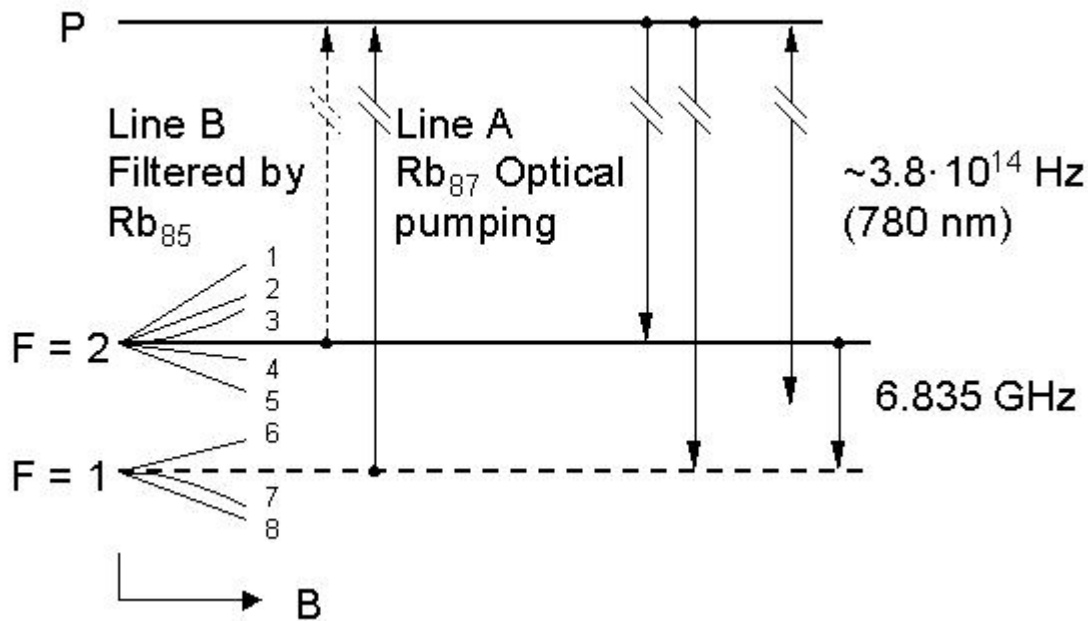

Fig. 2-1: Energy levels and transitions in Rb^{87} atoms during SRO operation.
In order to detect the clock transition between these two levels, the atoms need to be manipulated in such a way that most of them occur in only one level. This is done by optical pumping via a higher lying state (P). Fig. 2-1 visualises the atomic energy levels and transitions involved in the optical pumping process.